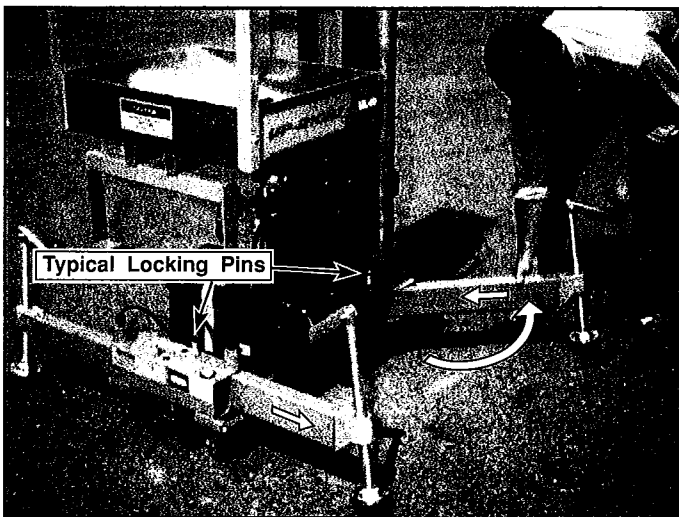

Figure 1: Positioning outriggers
1. Pull each front outrigger out until locking pin engages (Figure 1).
2. Rotate each rear outrigger towards rear of machine until it stops then push in on outrigger until locking pin engages (Figure 1). Pull on outrigger to verify that locking pin is engaged.